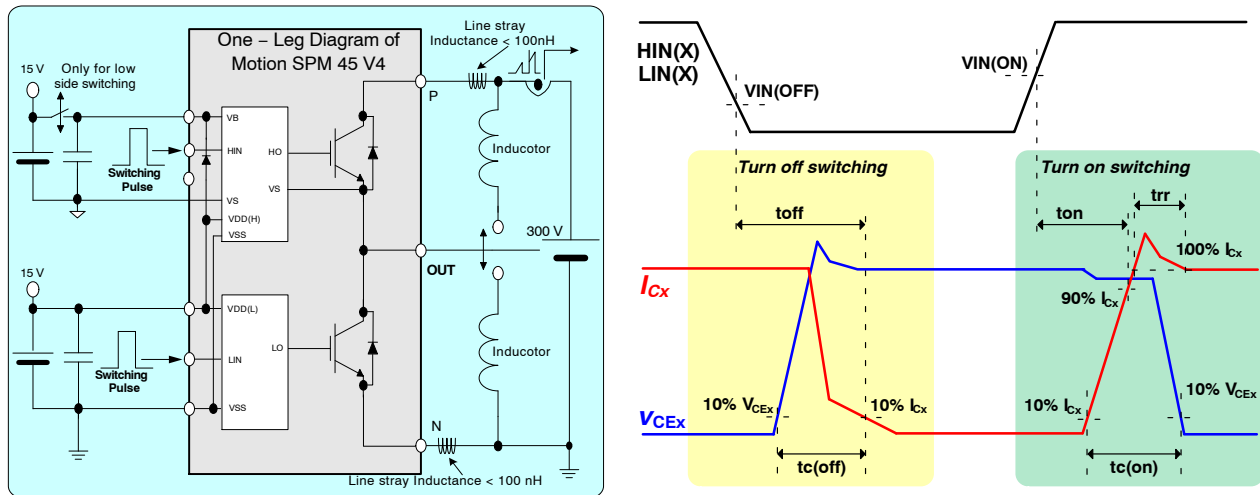

Figure 5. Switching Evaluation Circuit and Switching Time Definition
4. ton and toff include the propagation delay time of the internal drive IC. tc(on) and tc(off) are the switching time of IGBT itself under the given gate driving condition internally. For the detailed information, please see Figure 5.